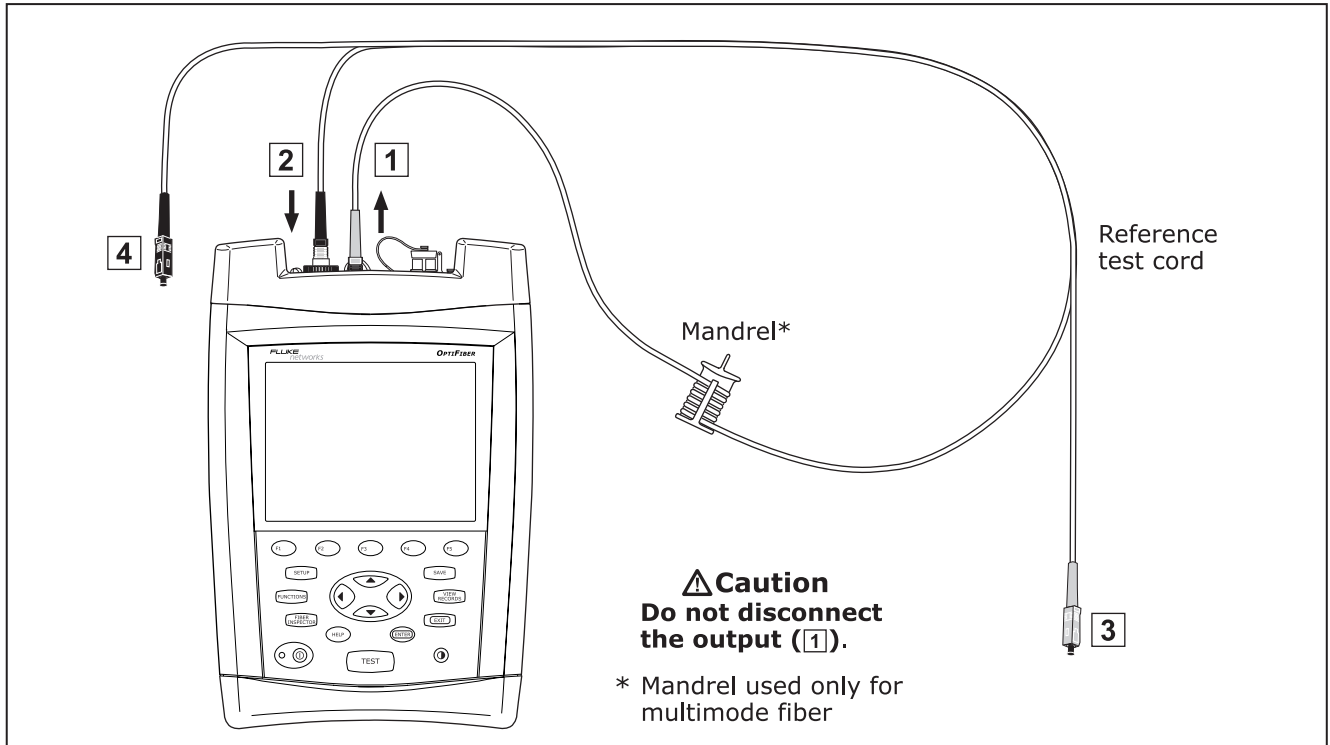

Figure 31. Loopback Mode Reference Connections
- 6 Press **FUNCTIONS**; then select **Set Loss/Length Reference**. Connect the reference test cords as shown on the screen and in Figure 31; then press **ENTER**.